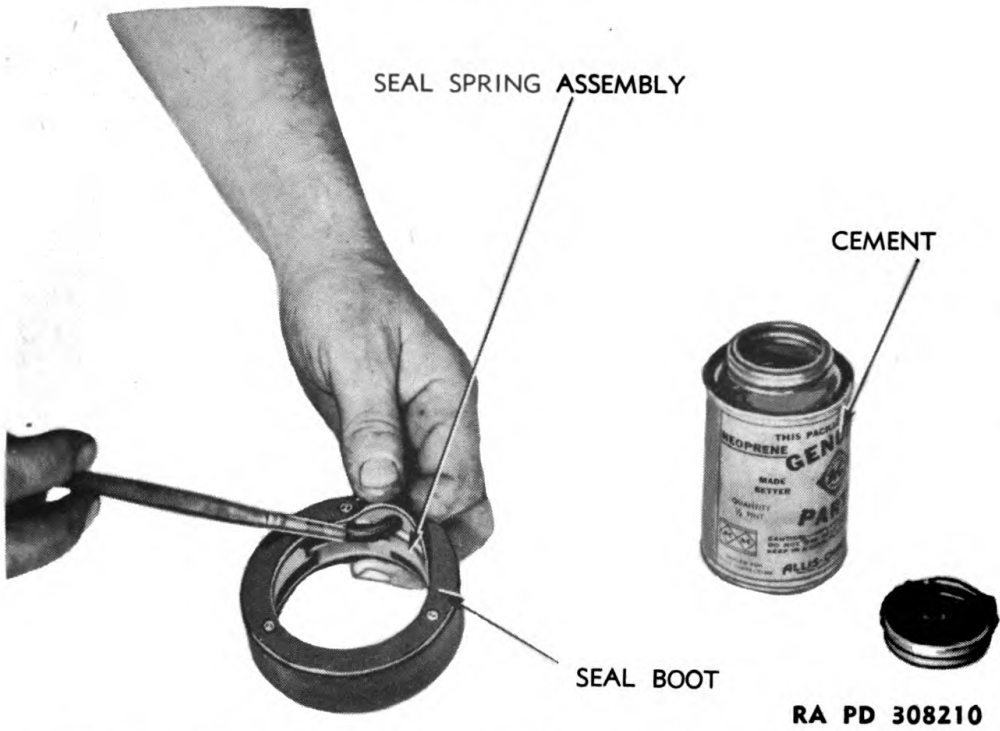

Figure 108 — Cementing Seal Boot to Spring Assembly
d. Assemble Oil Seals and Guide Bushings. Install rubber seal boot on seal spring assembly and, using nonvulcanizing rubber cement, cement inner sides of boot to sides of spring assembly (fig. 108). Coat inner face of guide bushing with cement (fig. 109), then install boot and spring assembly in bushing with pins in spring assembly engaging holes in bushing. Lay bushing on bench and coat upper side of seal boot with cement. Set seal ring on dowels projecting from upper side of spring assembly. Place clean cloth over polished surface of seal ring, then place weight on assembly to hold parts tightly together, and allow at least one hour for cement to dry. Repeat these operations on second assembly.